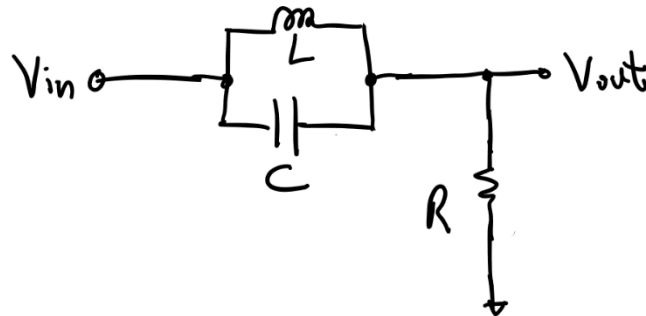

Figure 2. Circuit for Problem 2.
2. Consider the circuit shown in Figure 2 below, where V_{in} is the input voltage, V_{out} is the output voltage, and the component values are $R = 12 \text{ k}\Omega$, $L = 7 \text{ mH}$, and $C = 12 \text{ nF}$.
The circuit of Figure 2 has transfer function $H(s)$ of the form
To solve for the numerical quality factor Q , you should first analyze the circuit of Figure 2 above, derive its transfer function $H(s)$, put the transfer function into proper Bode approximation form, and then from there you should be able to derive an expression for Q in terms of the circuit components R and/or L and/or C . Finally, you should then be able to compute the numerical quality factor Q . Note that Q should be positive-valued.